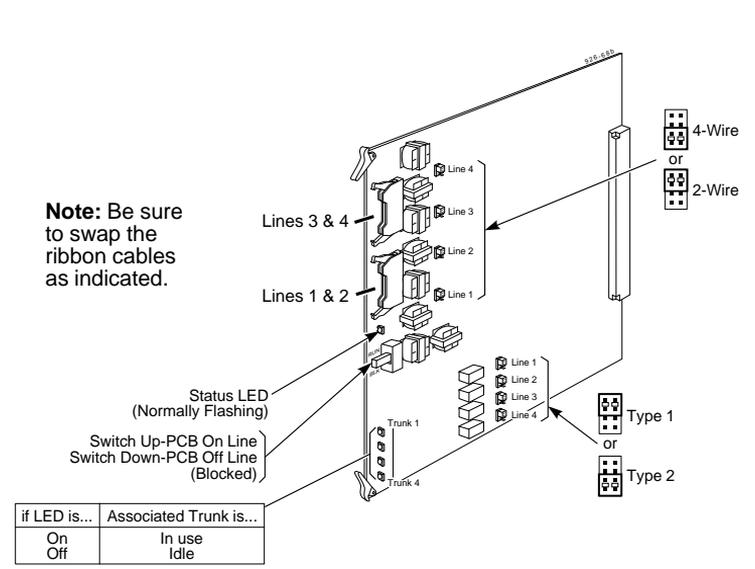

Figure 2-18 4ATRU-EM TIE LINE PCB INSTALLATION 2-22
Tie Line (4ATRU-EM) PCB (Figure 2-18)
2. Set the straps for either the 2-wire or 4-wire (see Figure 2-18).
5. Install the 16-pin filter cables after 24FU installation. See Figure 2-18 for connections (lines 3+4=top, lines 1+2=bottom).